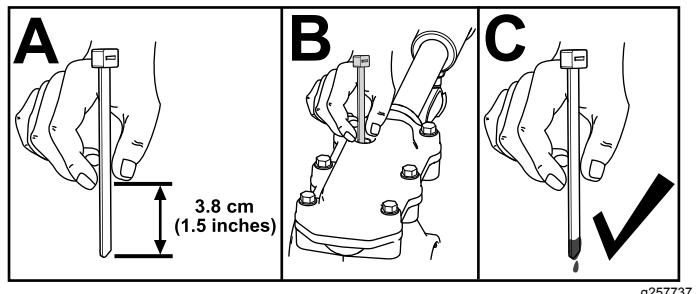

Figure 39
3. Check the oil level using a suitable measuring device, such as a clean cable tie. The oil should be approximately 3.8 cm (1.5 inches) below the filler opening (Figure 39).